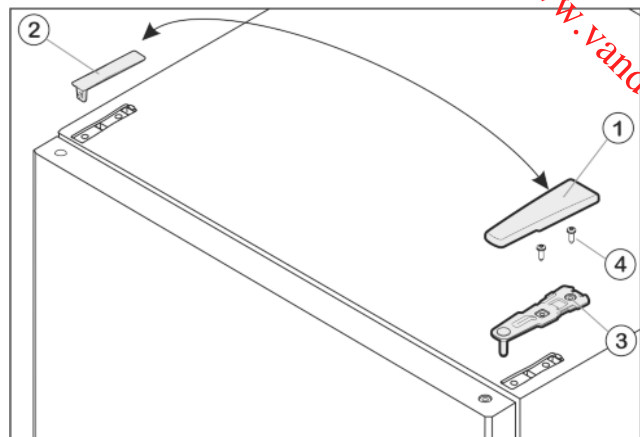

Fig. 7
- ▶ Pull off the cover Fig. 7 (1) forwards and upwards.
- ▶ Lift off the cover Fig. 7 (2).
- ▶ Unscrew the upper turn hinge Fig. 7 (3) (2x Torx® 25) Fig. 7 (4) and lift it off.
- Insert the upper turn hinge *Fig. 7 (3)* in the door on the new hinge side.
- Screw the upper turn hinge **firmly** into place (**with 4 Nm**) (2x Torx® 25) *Fig. 7 (4)*. Possibly make preliminary holes with a bradawl or use a cordless screwdriver.
- Apply the cover *Fig. 7 (1)* and cover *Fig. 7 (2)* to the opposite side from the outside and snap them into place.